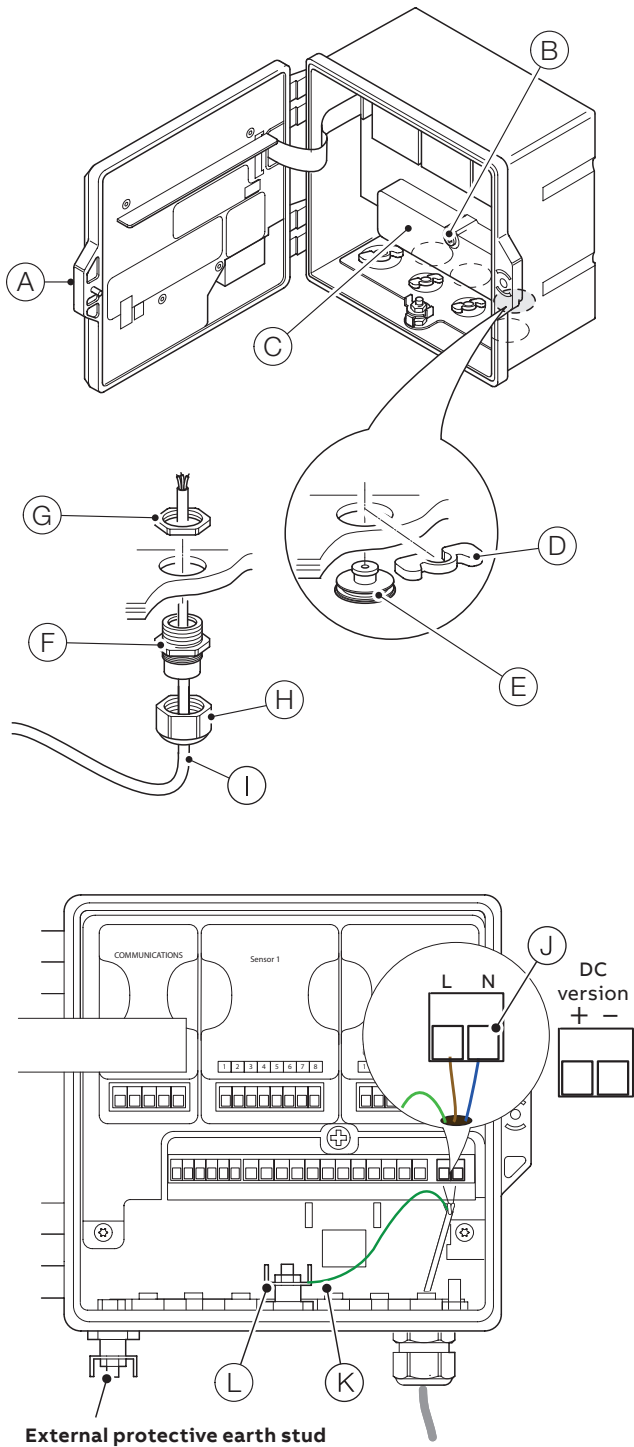

Figure 11 Connecting the transmitter AC mains power supply
- The external protective earth stud (see Figure 11, page 17) must be connected to the local earth bonding point using suitably sized ground cable. To connect to the protective earth stud, use a closed M4 cable lug.
Referring to Figure 11, page 17: